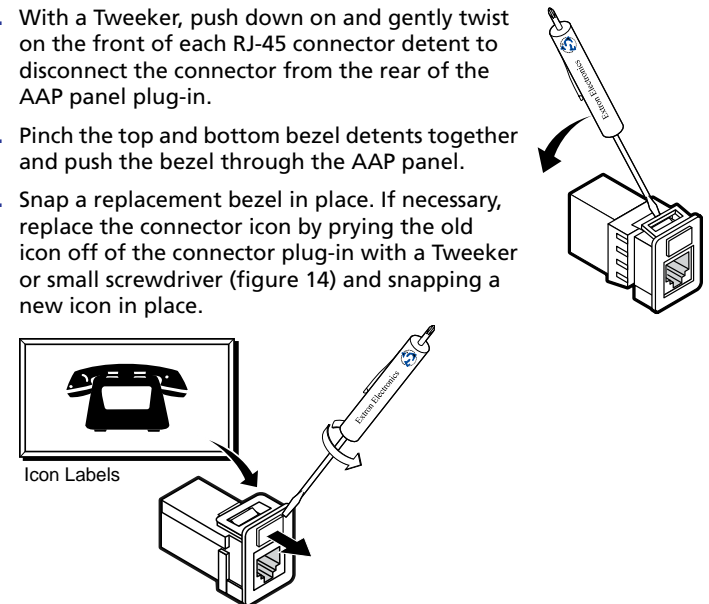

Figure 14. Changing the Connector Icon
4. Snap a replacement bezel in place. If necessary, replace the connector icon by prying the old icon off of the connector plug-in with a Tweezer or small screwdriver (figure 14) and snapping a new icon in place.